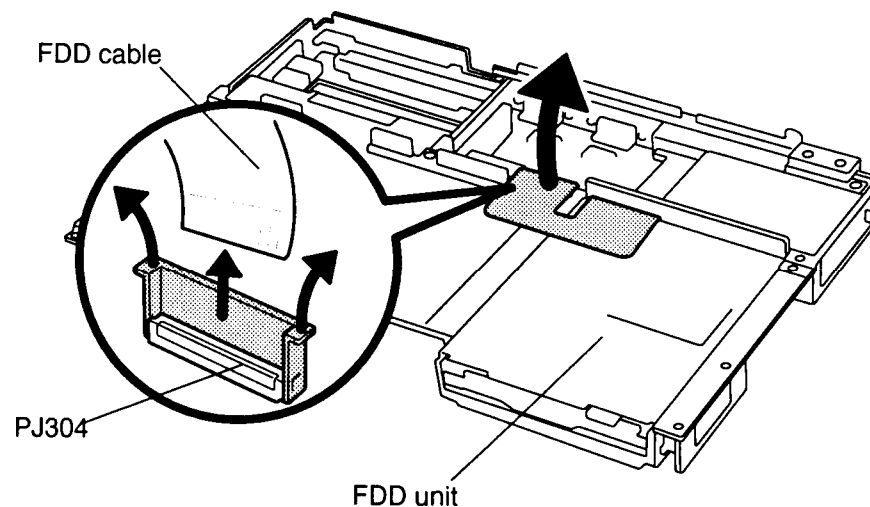

Figure 4-33 Disconnecting the FDD cable
To remove the T4850CT's floppy disk drive, follow the steps below and refer to Figures 4-33 through 4-35.
4. Disconnect the **FDD cable** from **PJ304** on the lower system board (Figure 4-33).
4. Turn the base assembly over and connect the **FDD cable** to **pressure plate connector PJ304** on the lower system board (Figure 4-33).
To remove the T4850CT's lower system board, follow the steps below and refer to Figures 4-33, and 4-39 through 4-41.
3. Disconnect the **FDD cable** from **PJ304** on the lower system board, if it was not disconnected earlier (Figure 4-33).
6. Connect the **FDD cable** to **PJ304** on the lower system board (Figure 4-33).